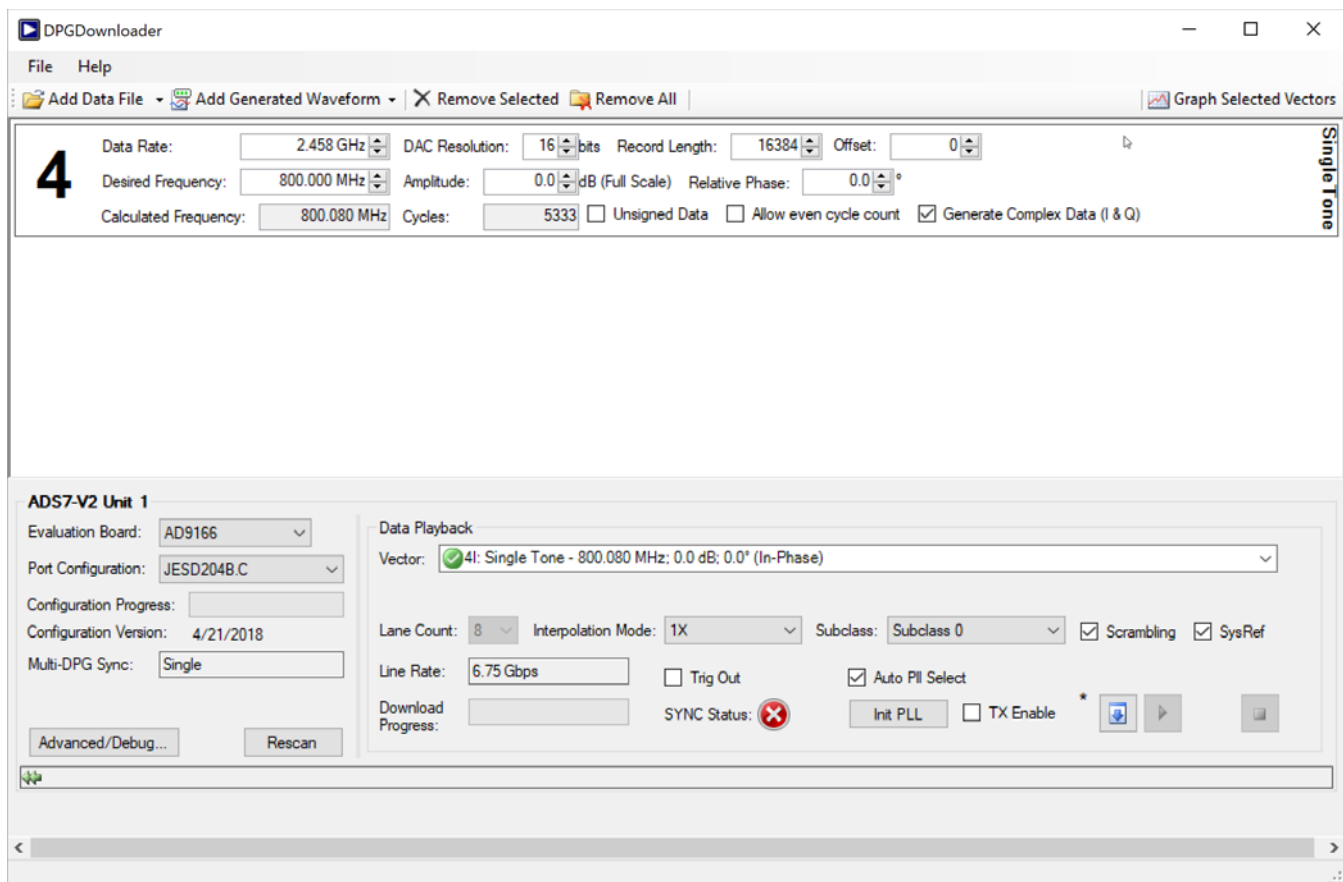

Figure 9. DPGDownloader Configuration for the AD9166
4. In the lower portion of the window, choose **Subclass 0** from the **Subclass** dropdown menu (see Figure 9).